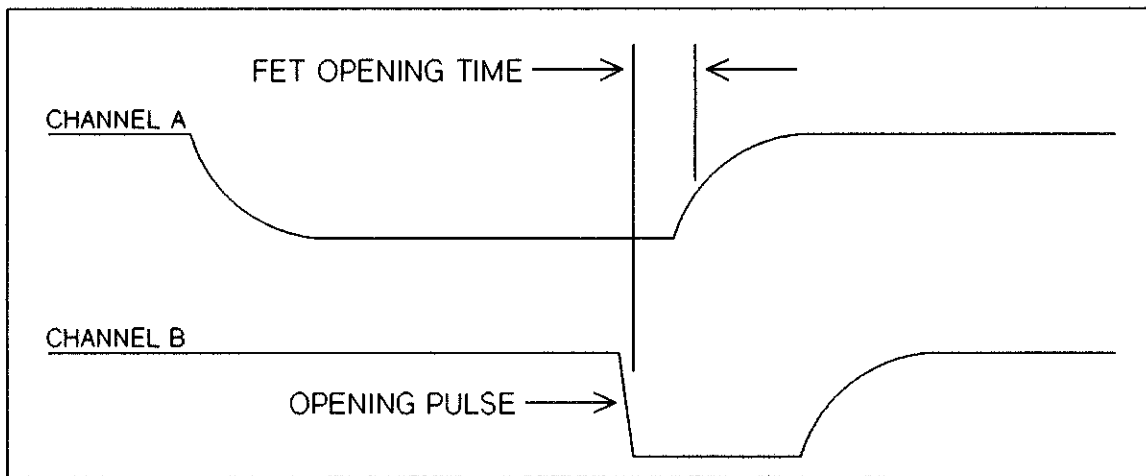

Figure 10-28 HP 44712A Opening Time
3. Rotate the DELAY SWEEP dial to the minimum position. Select the DELAYED sweep mode on the scope. Slowly rotate the DELAY SWEEP dial clockwise while observing the displayed waveforms. The Channel B waveform is the OPENING pulse. The Channel A waveform is the +5V supply as switched by the relays. As the DELAY SWEEP dial is rotated, each channel switch and the associated OPENING pulse will come into view. The FET opening time is the time from the falling edge of the OPENING pulse to the rising edge of the Channel A waveform. This time must be less than 1.2 μ seconds. The opening time is illustrated in Figure 10-28.